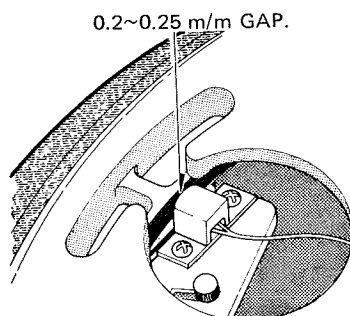

Fig. 5
7. Rotating the turntable slowly by hand, bring the adjustment hole of the turntable to the position right above the detecting magnetic-head. Once loosen the clamping screw, tighten it again after putting the magnetic-head fixing arm in a position pressing against the stopper as shown in figure 5. Pre-adjustment is provided at factory so that the distance between the magnetically-coated surface of the turntable inner rim and the detecting magnetic-head may come within a range of 0.2m/m – 0.25m/m. Manually rotate the turntable for a few turns and confirm that vibration or shock during the transportation has not disarranged the pre-adjustment. When the detecting magnetic-head comes in touch with the turntable, refer to "Adjusting the position of the detecting magnetic-head" on page 8